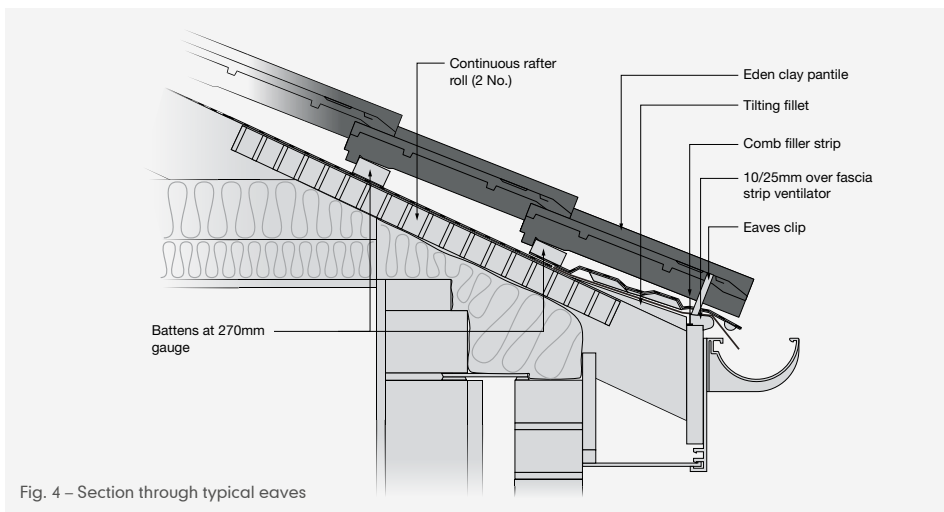

Fig. 4 – Section through typical eaves
- 1 The roof underlay should be laid over the tilting fillet or eaves vent strip and onto the felt support tray (Fig. 4).